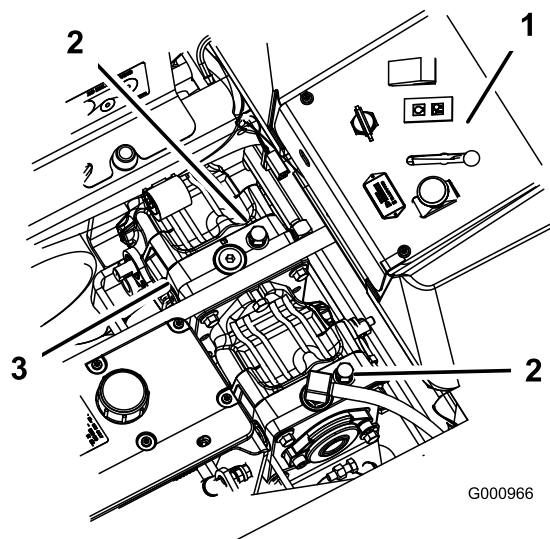

Figure 27
2. Rotate the by-pass valves counterclockwise 1 turn to push. This allows hydraulic fluid to by-pass the pump enabling the wheels to turn (Figure 27).
Rotate the by-pass valves clockwise 1 turn to operate machine (Figure 27).